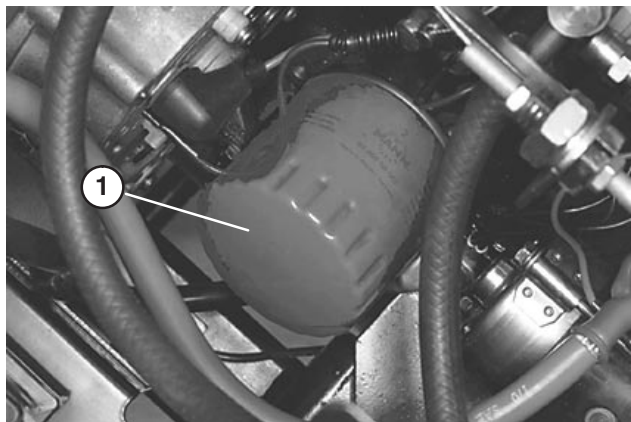

Figure 30
2. Remove oil filter (Fig. 30). Apply a light coat of clean oil to the new filter seal before screwing it on. DO NOT OVER-TIGHTEN.